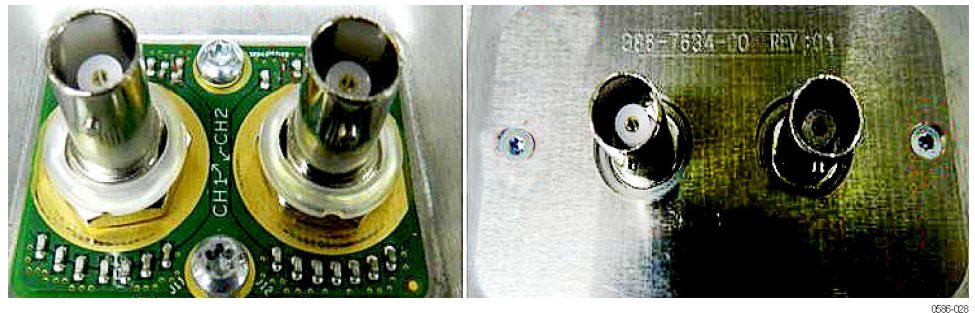

Figure 28: Installing the rear BNC washers, nuts, and insulators
- Attach the wave washers, then the nuts, and then the BNC insulators to the rear BNCs before you install the BNC cover plate. (See Figure 28.)